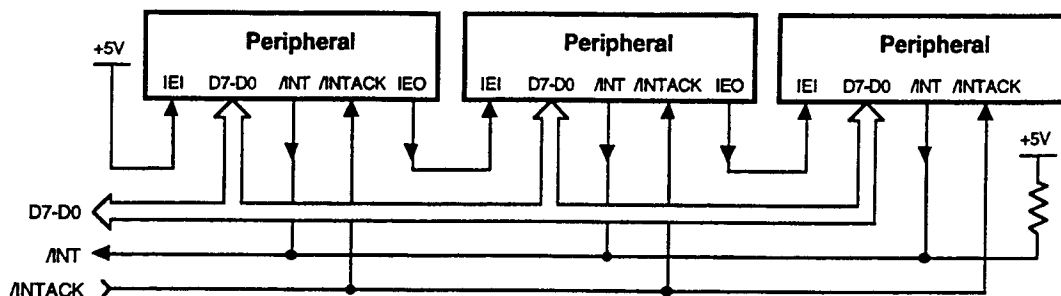

Figure 10. SCC Interrupt Priority Schedule
**/SYNCA, /SYNCB** *Synchronization* (inputs or outputs, active Low). These pins can act either as inputs, outputs, or part of the crystal oscillator circuit. In the Asynchronous Receive mode (crystal oscillator option not selected), these pins are inputs similar to /CTS and /DCD. In this mode, transitions on these lines affect the state of the Synchronous/Hunt status bits in Read Register 0 (Figure 10) but have no other function.
The other two bits are related to the interrupt priority chain (Figure 10). As a microprocessor peripheral, the SCC may request an interrupt only when no higher priority device is requesting one, e.g., when IEI is High. If the device in question requests an interrupt, it pulls down /INT. The CPU then responds with /INTACK, and the interrupting device places the vector on the data bus.